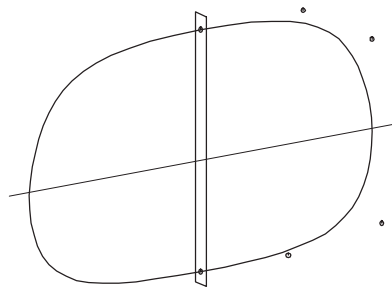

Fig. 11
- 3  (Zoom to Fit) (Fig. 11) This should match our distribution model TANPLANE2.ms2.